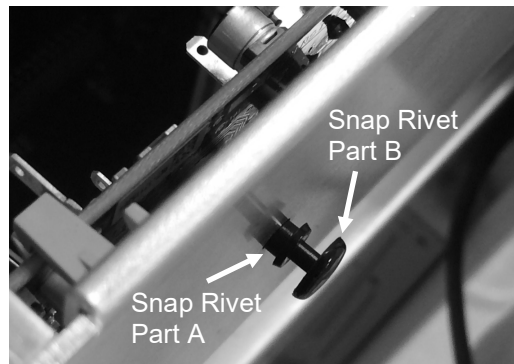

Figure 12
20. Once the card reader adapter board and cable assembly is attached to Part A of the rivet, insert Part B of the rivet into Part A from the outside of the card cage as shown in Figure 12. Press Part B until you feel a click and the head of Part B is flush and Part A is no longer visible.